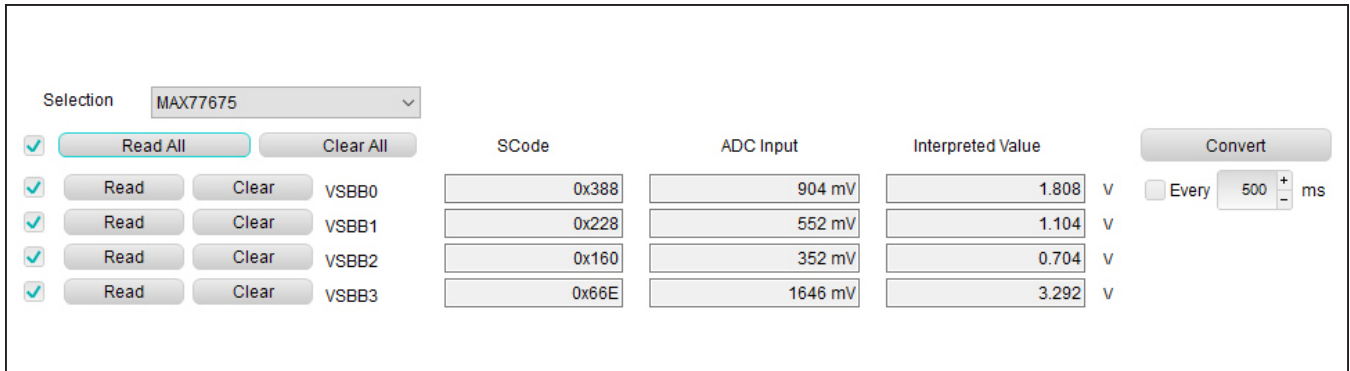

Figure 6. Quick Start: Regulator Check with the ADC
- 6) On the **ADC/AMUX** tab of the GUI, click the **Read** buttons next to **VSBB0**, **VSBB1**, **VSBB2**, and **VSBB3**. For the MAX77675A, 1.8V, 1.1V, 0.7V, and 3.3V should appear, respectively (Figure 6).